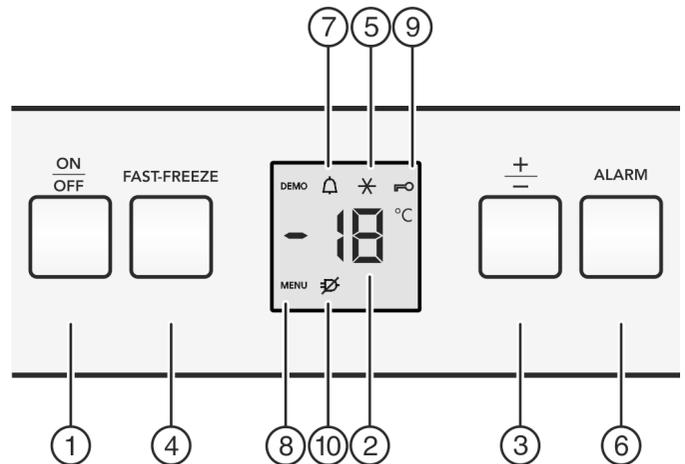

Fig. 2
- ▶ Press the On/Off button Fig. 2 (1).
- ▷ The appliance is switched on. The temperature display and Alarm symbol Fig. 2 (7) flash until the temperature is cold enough.
- ▶ Press the Fast-Freeze button *Fig. 2 (4)* for approx. 5 seconds.
- ▷ The menu symbol *Fig. 2 (8)* is indicated in the display.
- ▶ Briefly confirm using the Fast-Freeze button *Fig. 2 (4)*.
- ▷ The child lock symbol *Fig. 2 (9)* illuminates in the display.
- ▶ Briefly press the ON/OFF button *Fig. 2 (1)*.
- ▶ Press alarm button *Fig. 2 (6)*.
The temperature display and the alarm symbol *Fig. 2 (7)* flash at the same time.
The audible alarm is automatically silenced, the alarm symbol *Fig. 2 (7)* goes out and the temperature display stops flashing when the temperature is sufficiently cold again.